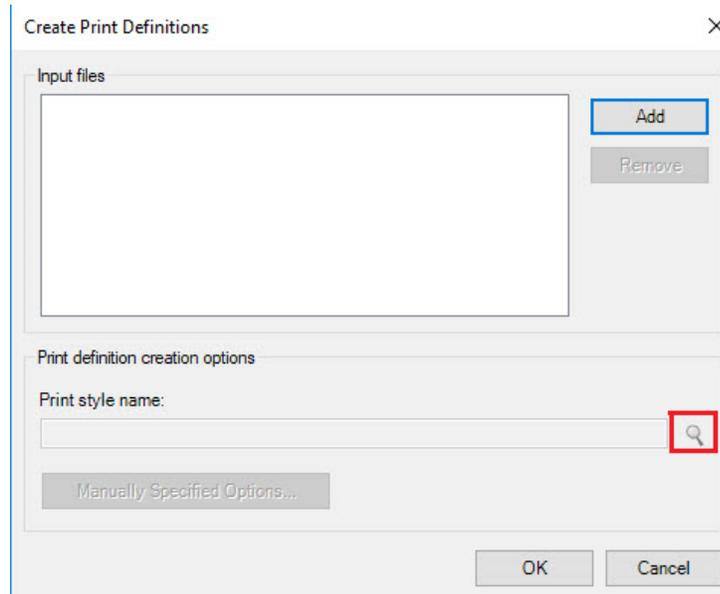

Figure 33 "Print Style Name"
Step 10. Next, select the magnifier to the right of Print Style Name (Figure 33 below)